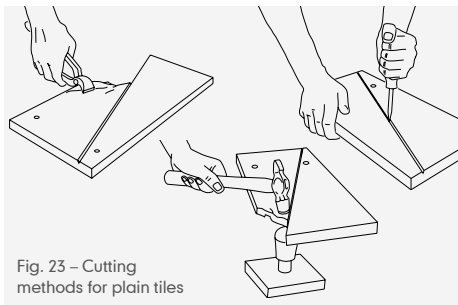
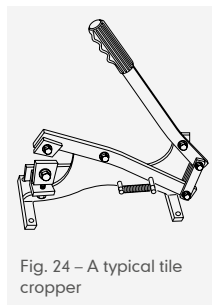

Fig. 23 – Cutting methods for plain tiles
Fig. 24 – A typical tile cropper
- 1 Traditionally, tiles for hips and flashings are cut using a hammer or pincers (Fig. 23) and tile cropper (Fig. 24).